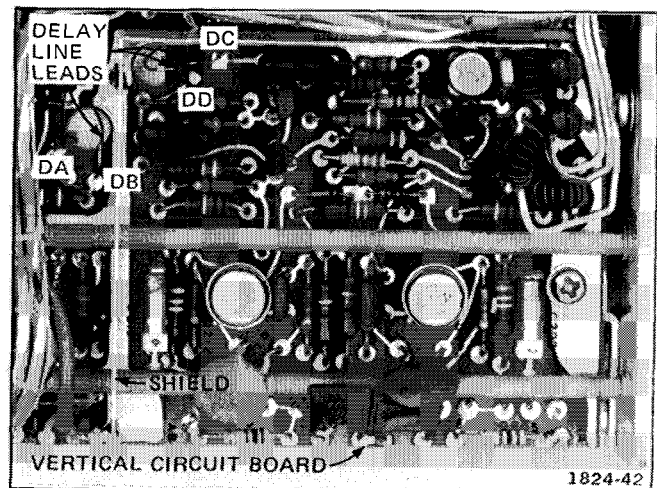

Fig. 4-14. Location of Delay Line leads.
a. Unsolder the 4 delay-line leads (see Fig. 4-14).